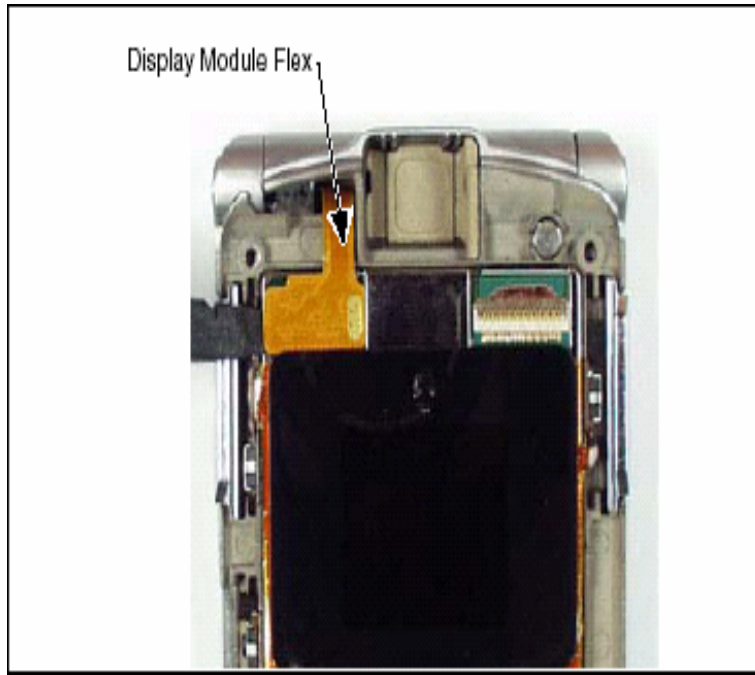

**Fig 13**
3. Carefully lift the camera assembly and flex out of the flip assembly (see Figure 13).